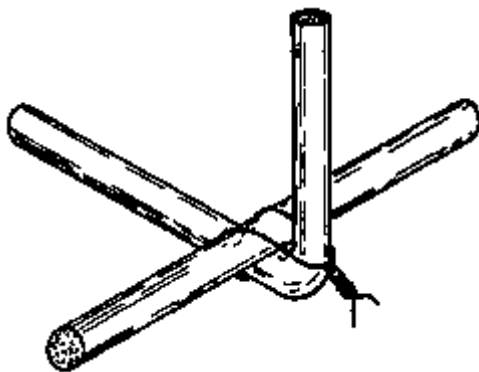

Fig. 2a STIRRUP TO MAIN BAR
- **BINDING:** The members must be bound together in order to ensure that the bars remain in the correct positions while the concrete is being poured. Binding wire is bound around pieces at the connections (Figs. 2a & 2b). The wire should be stretched taut and then twisted tight with the pincers.